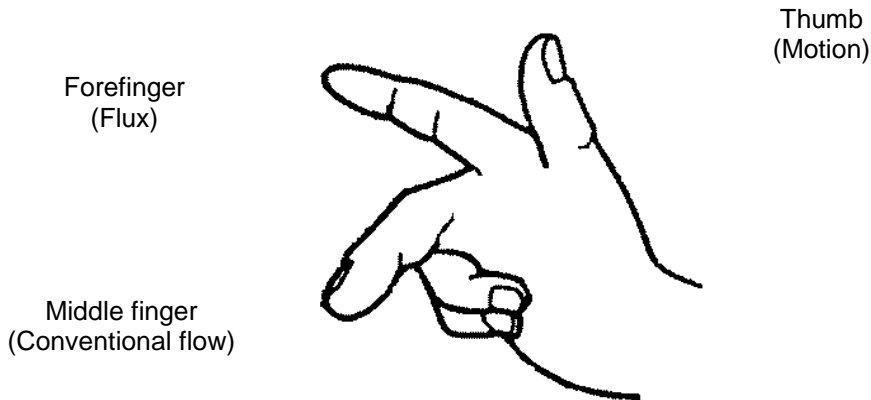
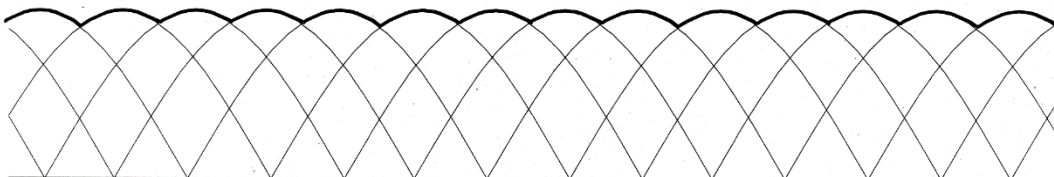

Figure 41
Figure 42
23. When the coil shown in Figure 41 is rotated through 360 degrees, the generated e.m.f changes in proportion to the sine of the angle as shown in the graph. The generated voltage is zero when the coil is travelling parallel to the field flux and maximum when it is travelling at 90 degrees to it. The polarity of the output to the load between 180 and 360 degrees is reversed by the action of the commutator and brushes. The output is known as ‘pulsating d.c.’ if the coil was connected to two slip rings instead of a commutator the output would be a.c. The method of determining the direction of flow of a current in a conductor rotating in a magnetic field is by the use of the RIGHT HAND GENERATOR RULE, as shown in Figure 42.